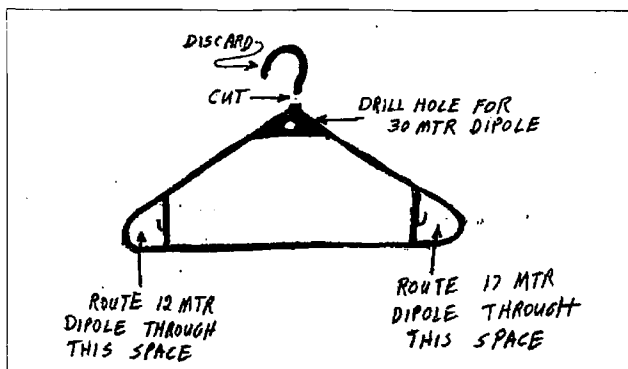

Fig. 2. Preparation details for clothes hangers.
to separate the legs of the three-band dipole to be fed with a single coax. See Fig. 2 for details. I drilled holes in the thin plastic tab at the apex of the hanger triangle using a drill bit that was only slightly larger than the wire to be used for the dipole legs. Next, heavy wire cutters were used to snip off the hanger hooks. They could have been left intact and possibly used in the construction. I decided to cut them off to help disguise the real identity of the hangers. So far, all observers have identified them for what they really are. Oh, well, no big deal! You may wish to leave them intact if you decide to construct this antenna. The beauty of a simple project like this is that it can be modified to suit your own needs. You may want to add more bands or build it for different frequencies.
Twenty-two of the hangers were prepared as shown in Fig. 2. Eleven were used on each side of the center insulator. Be sure to purchase the hangers
The waveform of the output pulses obtained from my model are given in Fig. 2. The signals obtained from another unit should appear similar to these, but may not be exact duplicates.
Fig. 2. Waveform of output pulses obtained from the author's model. (A) Low-frequency (200 pps) positive-going pulse. (B) High-frequency (6000 pps) positive-going pulse, and (C) high-frequency, negative-going pulse (6000 pps).